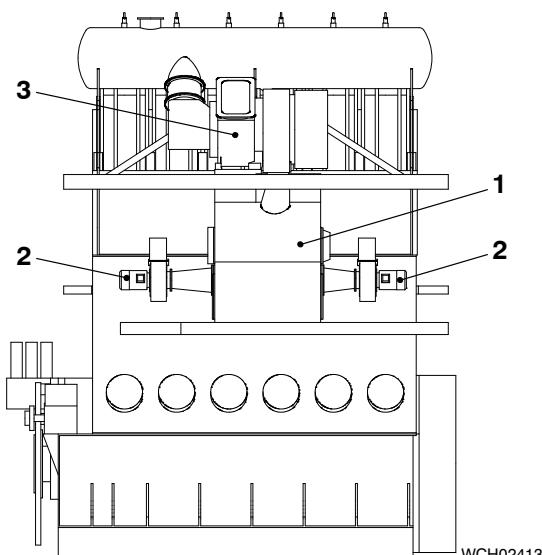

Fig. 1 Engine with One Turbocharger
Two auxiliary blowers (2, Fig. 1 and Fig. 2) are attached to the scavenge air receiver (1). For more data about the auxiliary blower, see the Operation Manual 6545-1 Auxiliary Blower and Switch Box.
- Procedure One: The auxiliary blowers are installed on the outer part of the scavenge air receiver (see paragraph 2.1). For engines with one turbocharger (3, Fig. 1), see the procedure given in paragraph 2.1. This procedure is for each of the two electric motors.